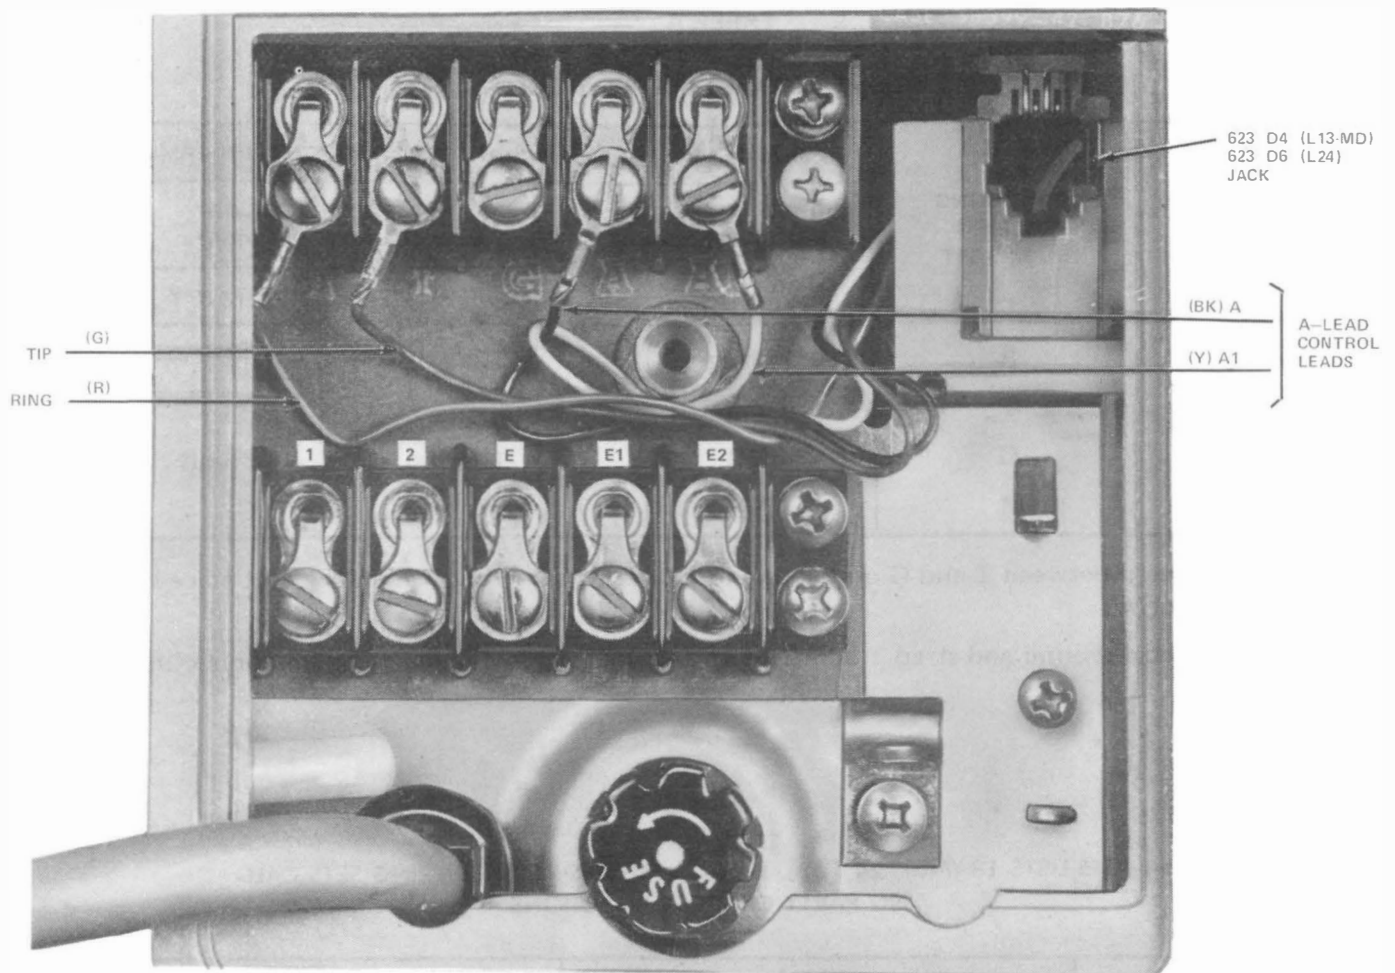

Fig. 29—KS-19245, List 13 (MD) Telephone Answering Set—Terminal Board
- (b) For List 13 (MD) telephone answering set only, insert a D4BU mounting cord (ordered separately) into the 623D4 jack at rear of set (Fig. 29).
- (c) For List 24 (MD) or 26 telephone answering set only, insert D6AP mounting cord (ordered separately) into the 623D6 jack in rear of answering set (Fig. 29).